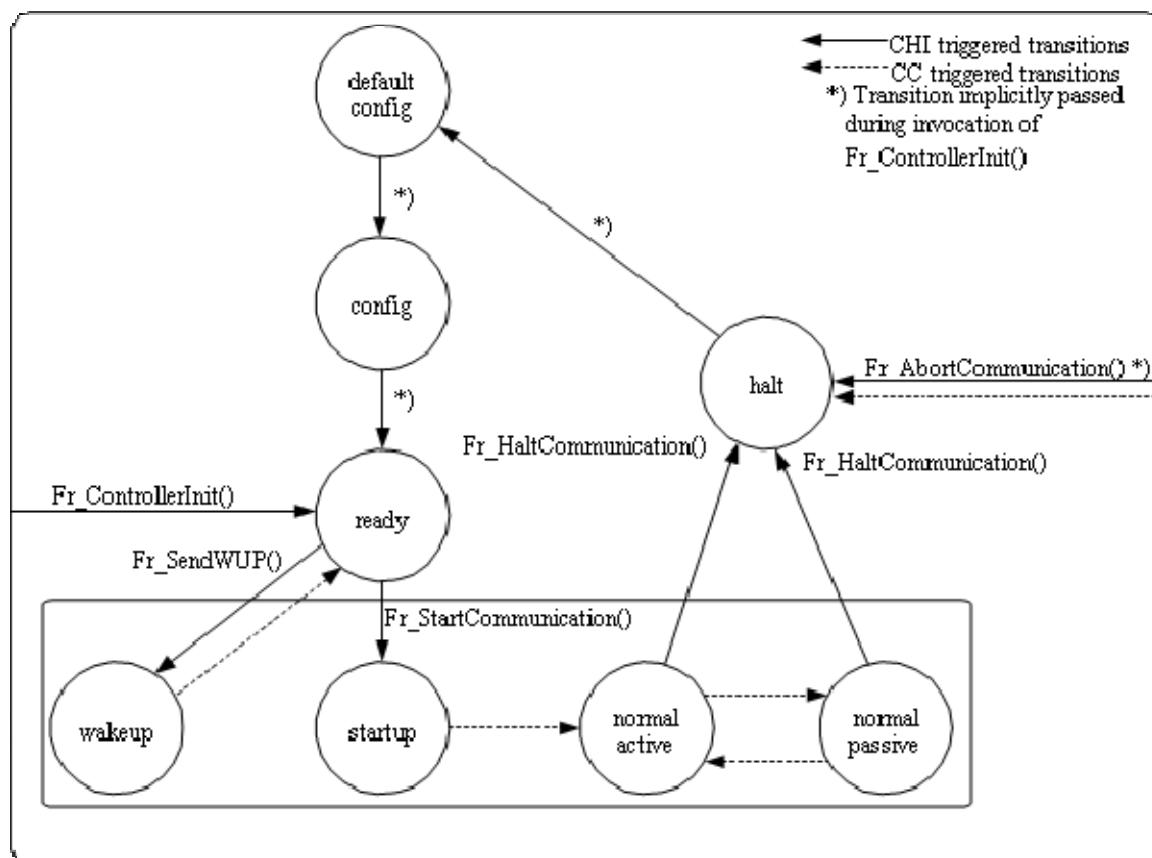

Figure 4 FlexRay Driver POC state machine control ↴ ()
Figure 4 shows the POC states of the FlexRay CC and the transitions applicable to the Fr module API functions. Note that
- certain transitions specified cannot be performed by the current Fr module API (not drawn in Figure 4 – compare to [5]).